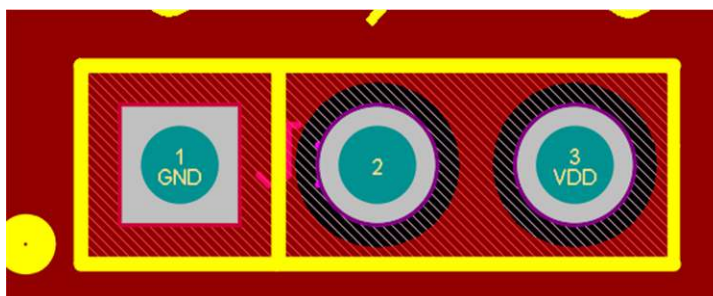

Figure 2-1. Generic Jumper and Header Position 1 Designator
- Jumpers should be placed according to desired functionality. Figure 2-1 displays a generic jumper, with the indicating dot to designate position 1.